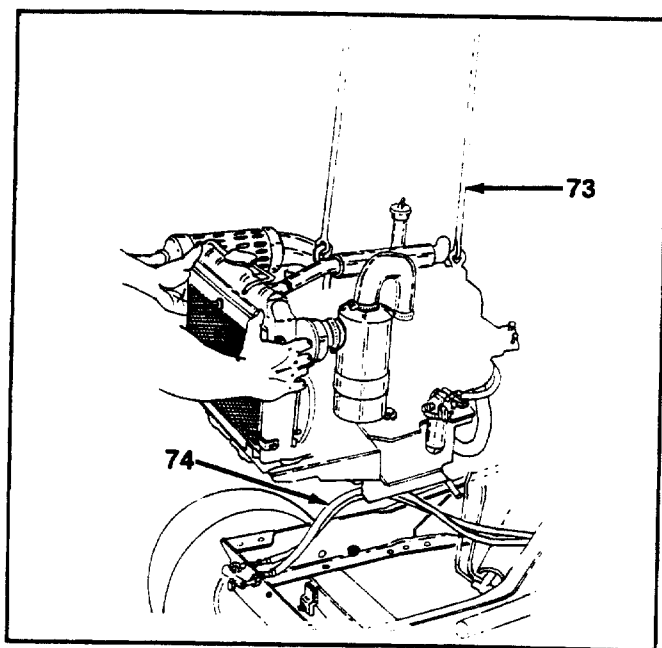

FIGURE 37.
40. Attach a suitable hoist and chain to the engine lifting eyes. See figure 37.
41. Slide the engine and radiator mount forward to disengage the drive shaft. Raise the engine from the tractor frame; be careful of the front P.T.O. hoses. See figure 37.